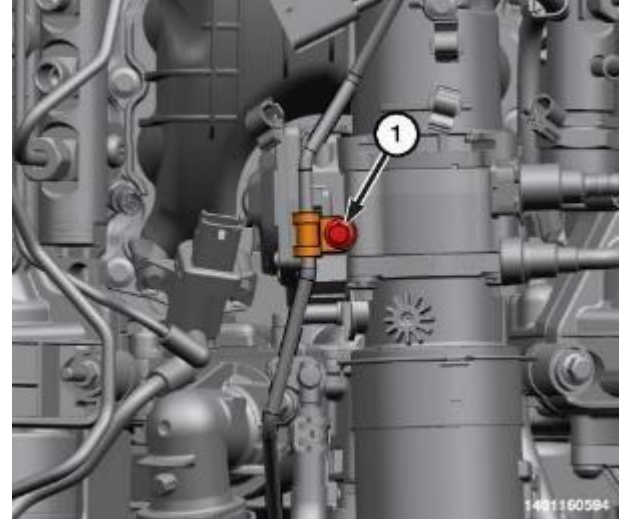

Figure 68 – Fuel Tube Bolt
- 119. Install the bolt (1) securing the high-pressure fuel tube and tighten to 11 N·m (8 ft. lbs.) (Figure 68).